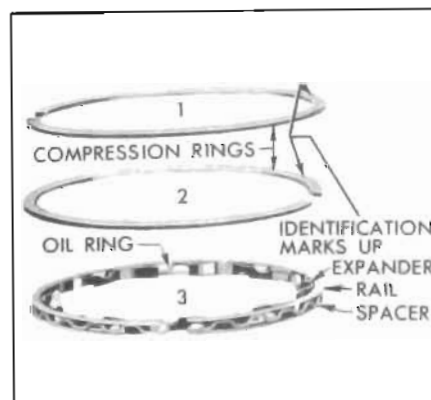

Figure 2-40—Piston Rings
8. Install piston rings as shown in Figure 2-40. Position expander ends over piston pin. Install oil ring rail spacer, and oil ring rails. Position gaps in rails "up" on same side of piston as oil spurt hole in connecting rod. Install compression rings in upper two grooves. If a single chrome plated compression ring is used, the chrome ring must be installed in the top groove.